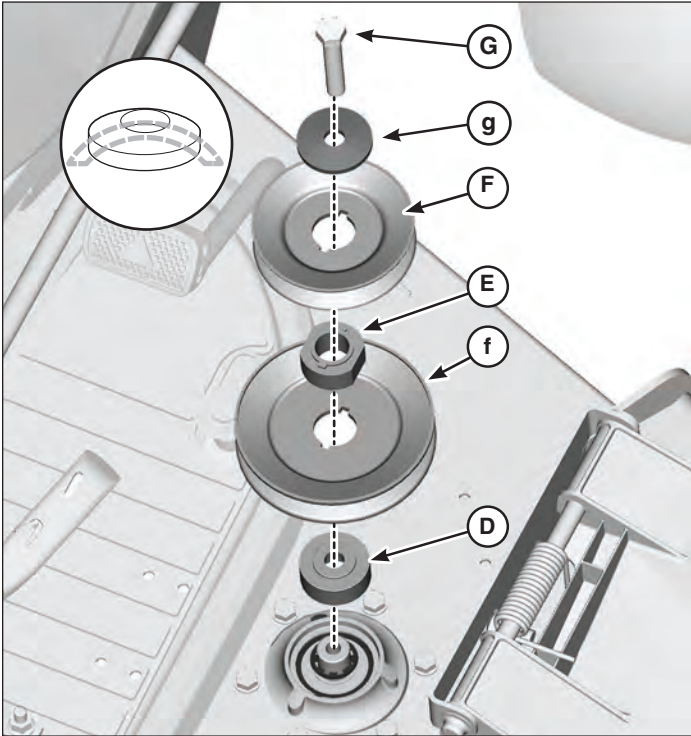

Figure 8
1. Place spacer (D, Figure 8), existing pulley (f), hub (E), pulley (F) and existing belleville washer (g) onto pulley hub.